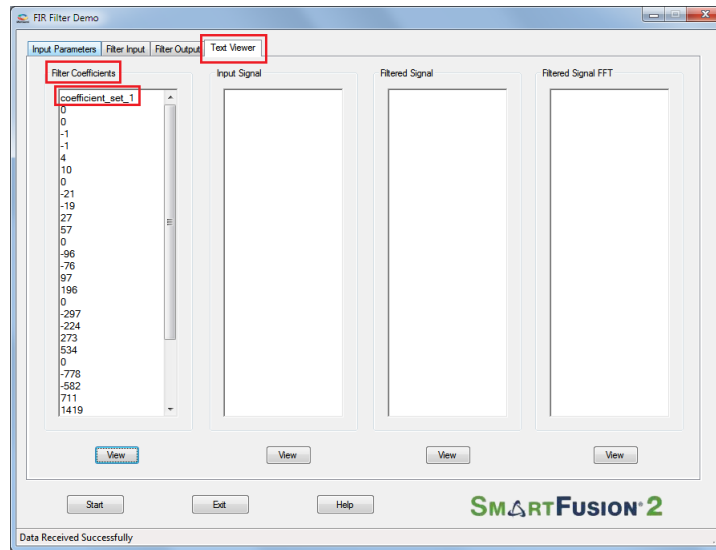

Figure 1-17 • Text Viewer: Filter Coefficient Values
12. The values can be observed as shown in Figure 1-17.